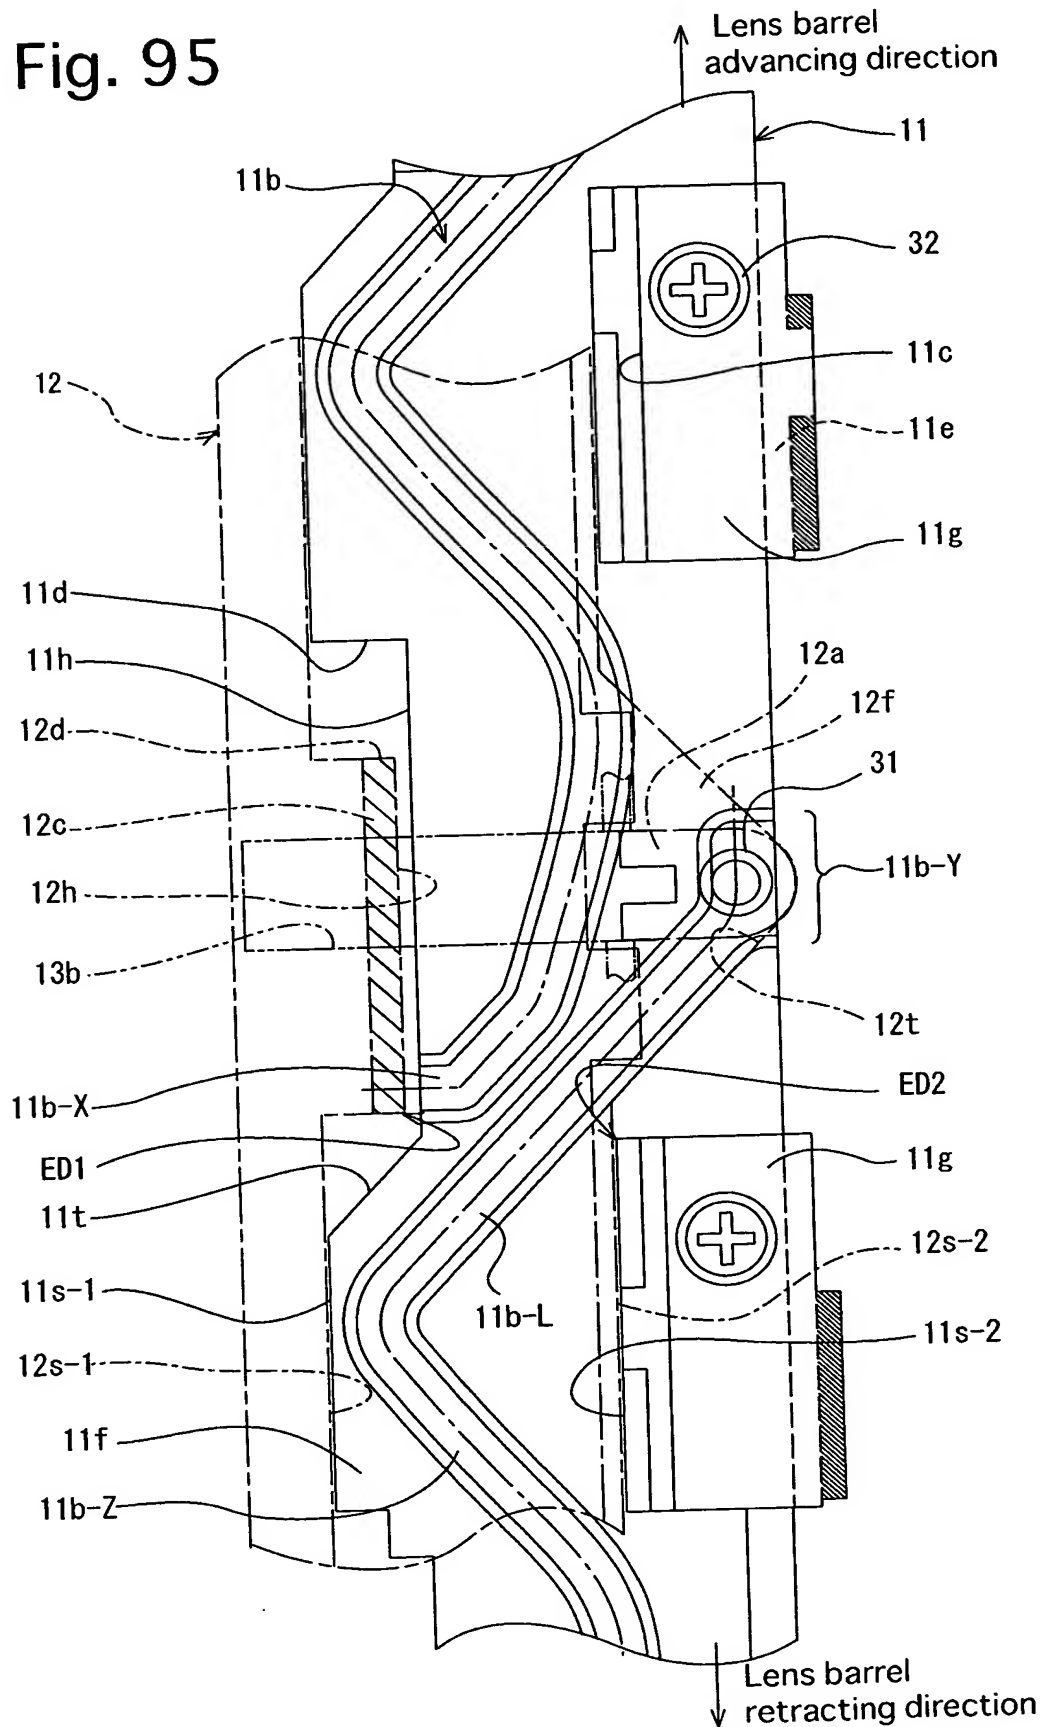

Fig. 96
Fig. 96 is a detailed cross-sectional view of a lens barrel assembly. The diagram shows a central lens element (11) with multiple curved surfaces (11b, 11c, 11d, 11e, 11f, 11g, 11h, 11i, 11j, 11k, 11l, 11m, 11n, 11o, 11p, 11q, 11r, 11s, 11t, 11u, 11v, 11w, 11x, 11y, 11z). The lens element is mounted on a lens barrel (11) which has a central axis (11a). The lens barrel is shown in two states: an advancing state (indicated by an upward arrow at the top) and a retracting state (indicated by a downward arrow at the bottom). The lens barrel is connected to a lens element (11) via a lens element support (11b). The lens element support (11b) is shown in two states: an advancing state (indicated by an upward arrow at the top) and a retracting state (indicated by a downward arrow at the bottom). The lens element support (11b) is connected to a lens element (11) via a lens element support (11b). The lens element support (11b) is shown in two states: an advancing state (indicated by an upward arrow at the top) and a retracting state (indicated by a downward arrow at the bottom). The lens element support (11b) is connected to a lens element (11) via a lens element support (11b).